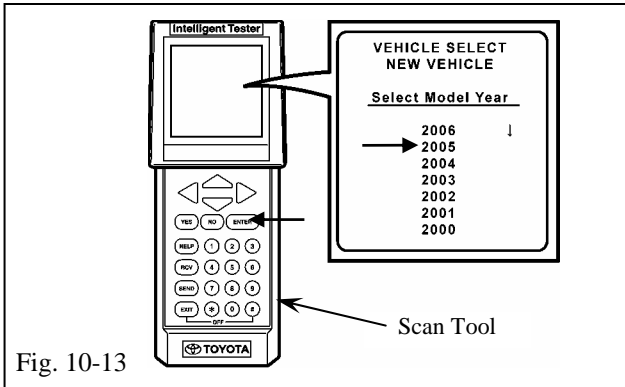

Fig. 10-13
- (n) Select “2005” with the scroll key, then press the “ENTER” button. (Fig. 10-13)